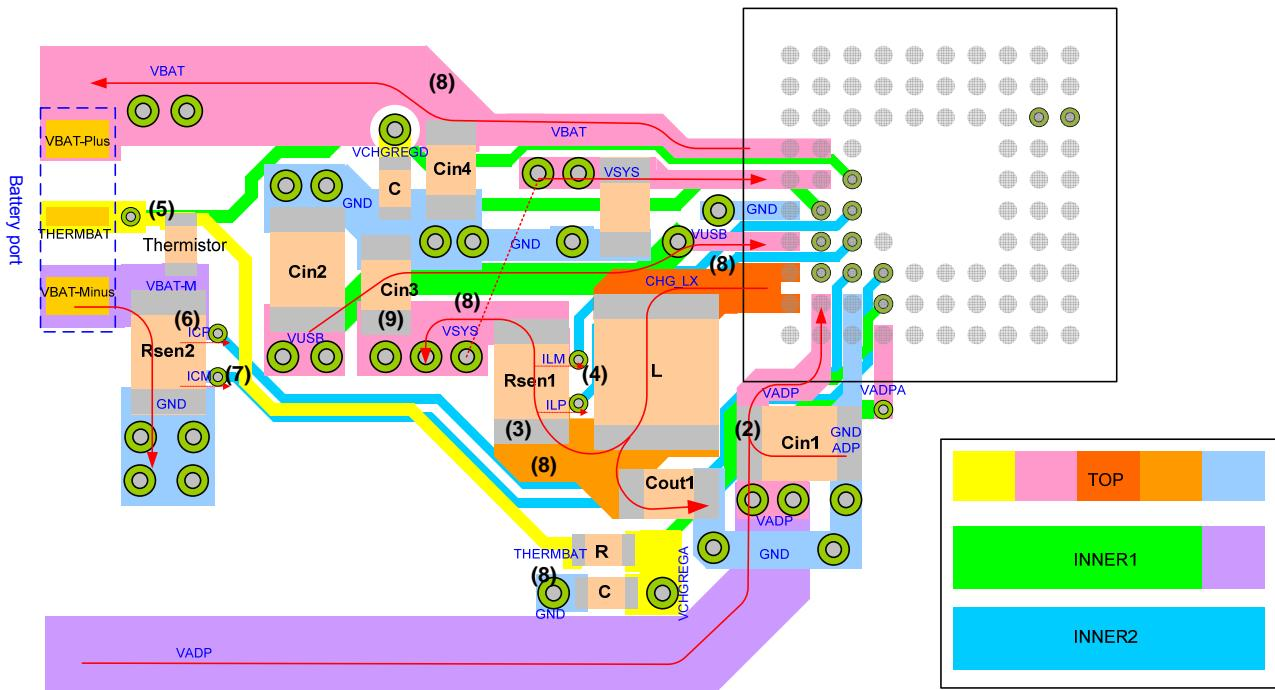

Fig. 1-4: Example of Charger Block Pattern
- (1) Place the parts to minimize the switching current loop. (Figure 1-4: red line)
- (2) Place "VADP" capacitor as close as possible to RC5T619-0xxx, and route the line to RC5T619-0xxx short and widely in order to minimize resistance.
- (3) Because "R_{SEN1}" Is the resistance which fixes accuracy of the current, use the high accuracy it as possible. (Refer to the "Recommended External Parts List" on P.11)